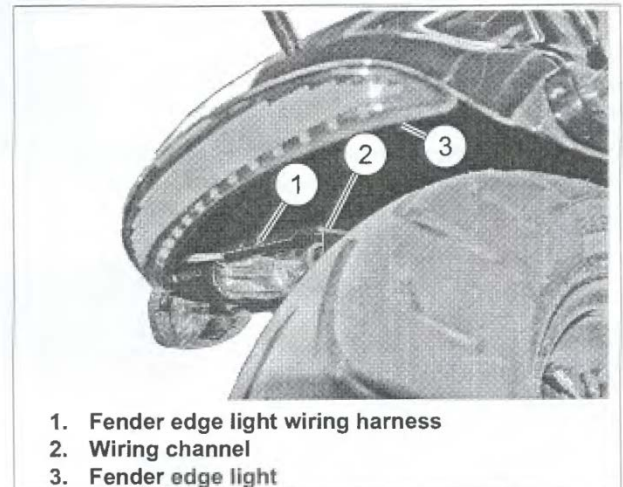

Figure 1. Fender Edge Light
4. See Figure 1. Test the fit of the fender edge light into the open end of the rear fender to verify that the fender edge light will fit properly without obstruction.